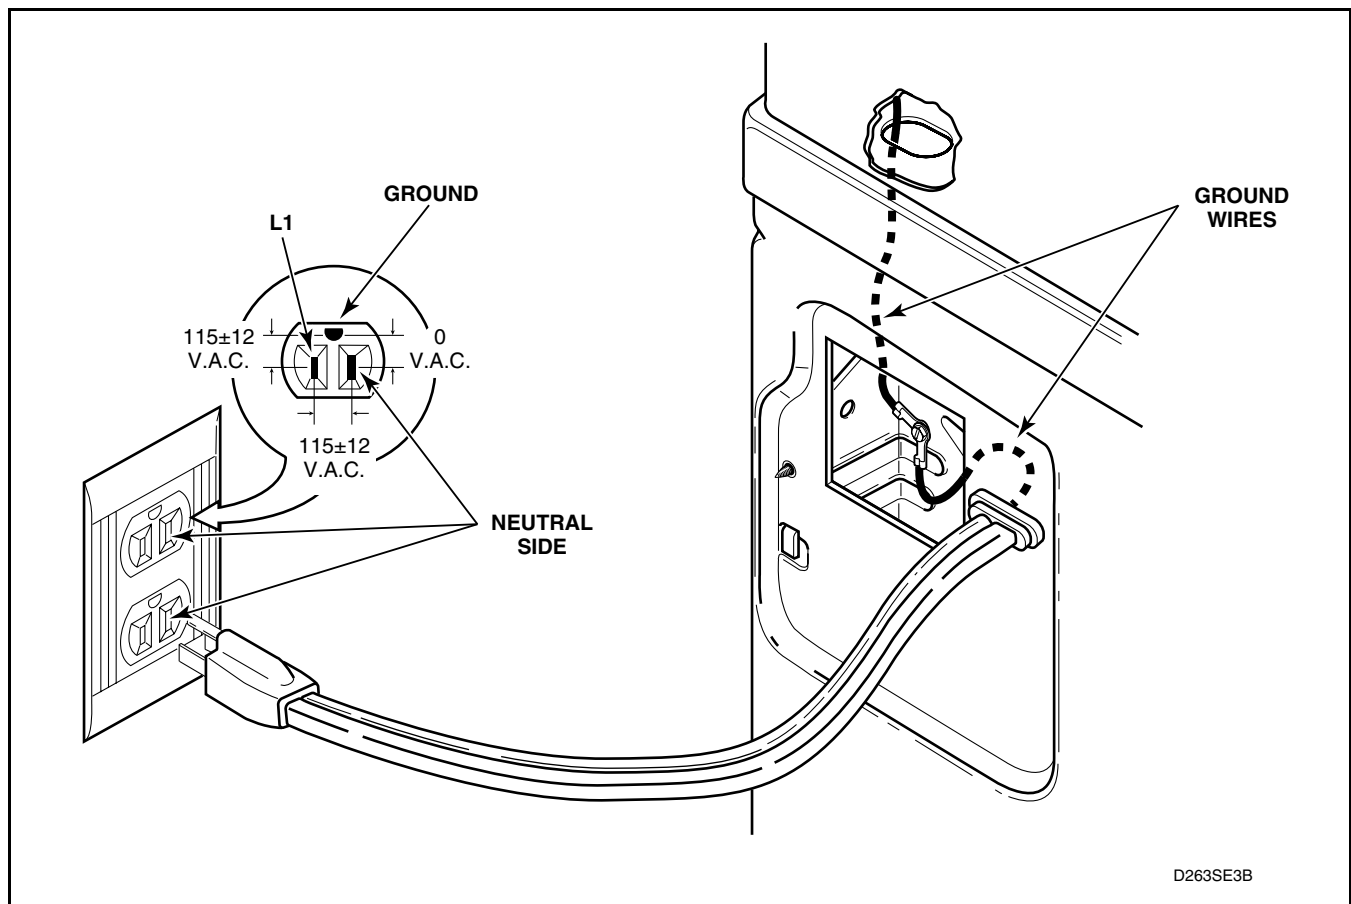

Figure 43
- (1) Remove access plate on rear of cabinet.
- (2) Remove strain relief.
- (3) Remove screw holding power cord ground wire to rear bulkhead. Refer to *Figure 43*.
- (4) Disconnect molex plug and remove power cord from rear of dryer cabinet.